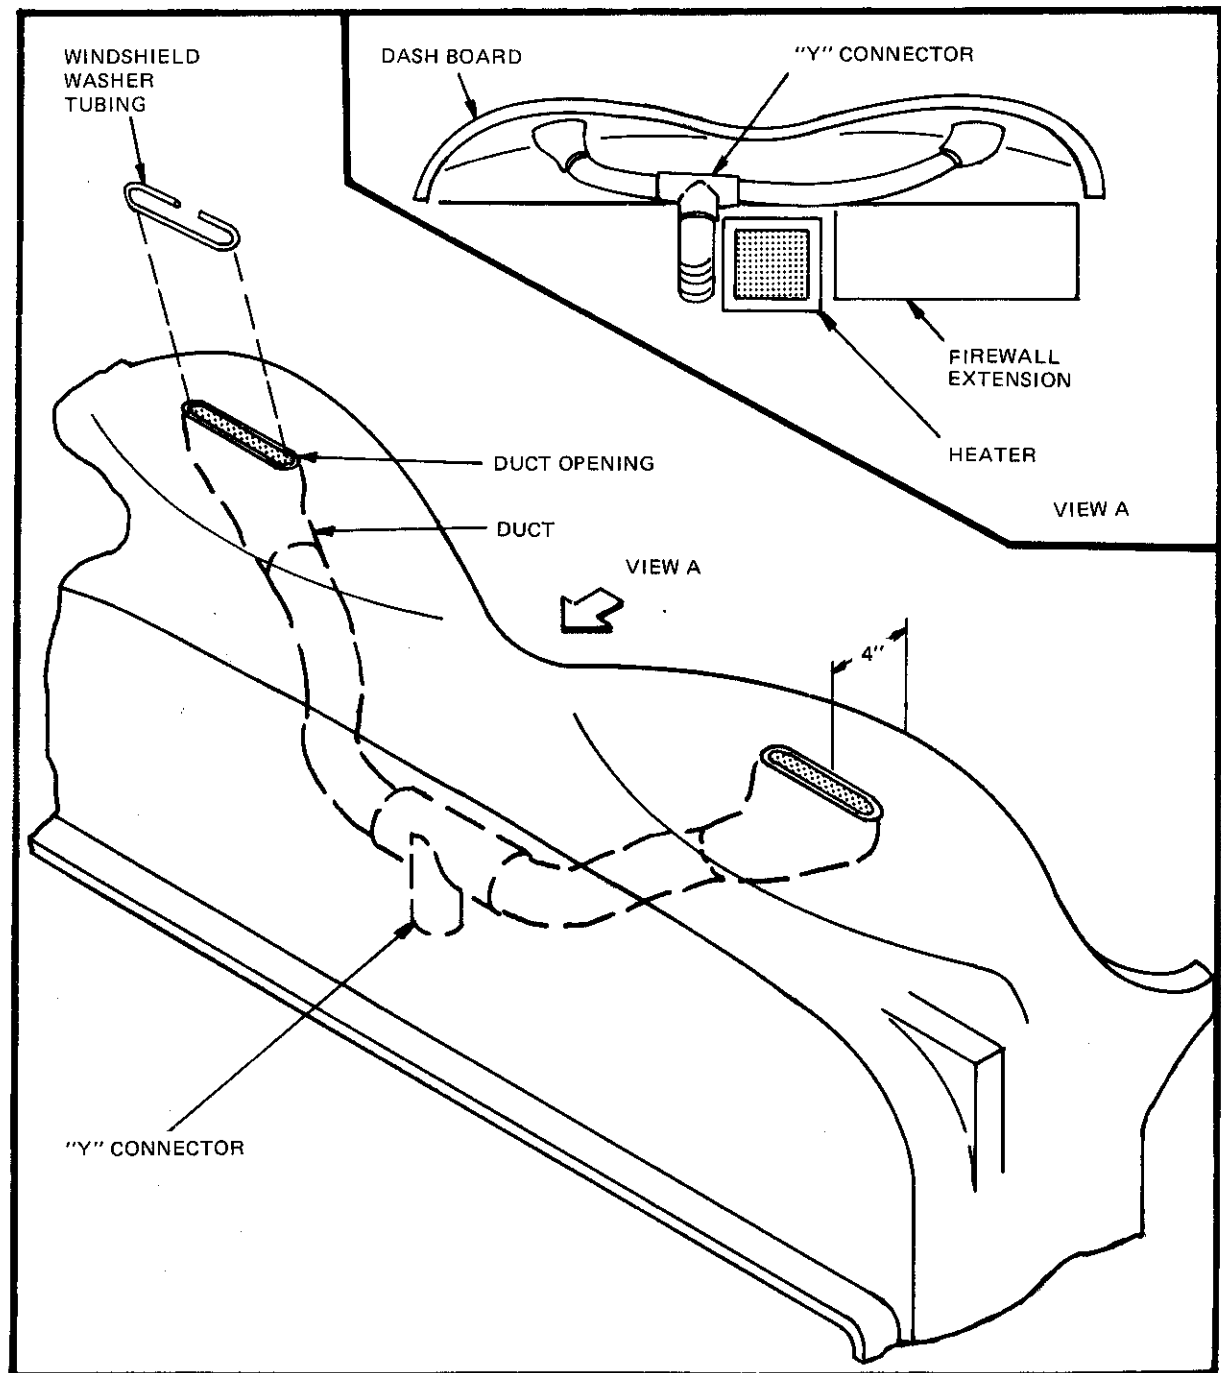

Figure 38
- ☐ Run hoses from ducts to opening on heater, using the "Y" connector. Glue holes in place. (Figure 38)